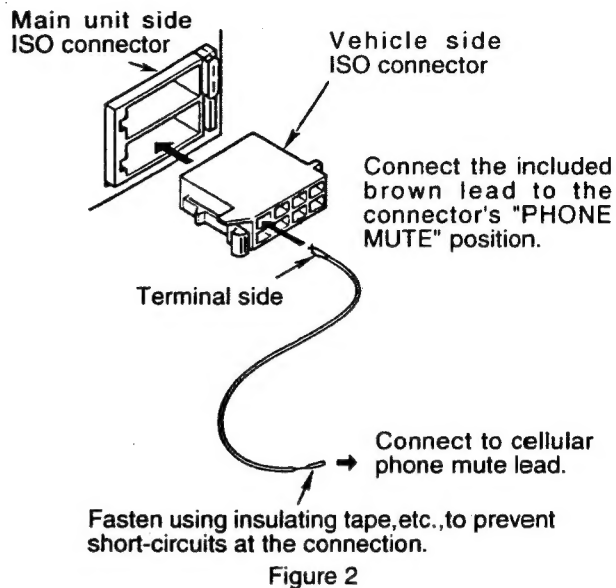

Figure 2
2. The lead include with the unit must be connected to the specified position of the vehicle's ISO connector in order to use the "triggered audio mute for cellular telephones" function. (Figure 2)